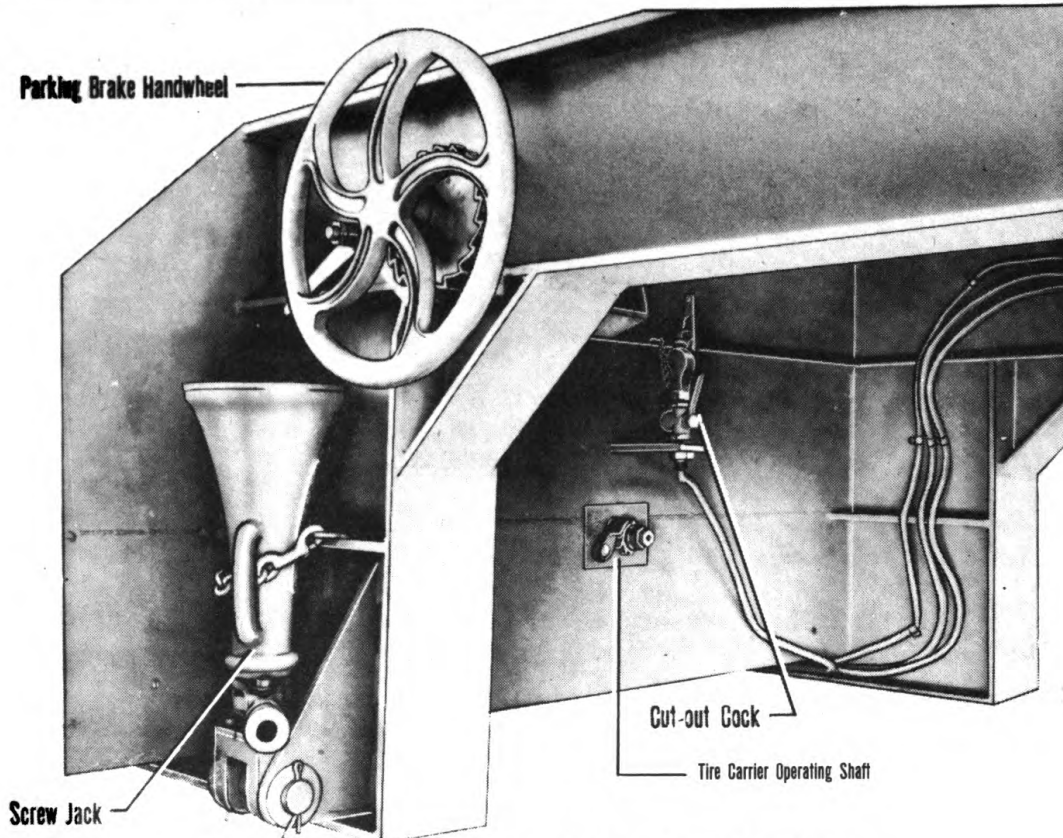

Figure 8—Below the Gooseneck of the Main Unit Frame
A hand parking brake, with its operating wheel (figure 8) at the right side of the trailer frame, actuates cross shafts and levers connected by rods to the rear axle brake slack adjusters.
Screw jacks (figure 8) are provided at each side of the goose neck to support the main frame without its dolly.
13. A cut-out cock (figure 8), located under the main unit gooseneck, is provided in the hose line connecting the dolly air brake equipment to the trailer air brake system so that the line may be closed when the dolly is not being used.
The parking brake handwheel is located on the right side of the trailer at the drop in the frame. Turning the wheel applies the brakes. The hand brake can be used as a parking brake, or as a supplement to the truck brakes when descending extremely steep grades with a heavy load. (See figure 8.)
The tire carrier (figure 49) is located behind the front cross member of the lower deck, while the carrier operating shaft protrudes through that cross member (figure 8). By removing the stud nuts on the spare tire, and releasing the catch on the operating shaft ratchet, the tire will fall to the ground. The tire is raised to the carrier by means of cables operated by turning the operating shaft with the socket tire wrench on the shaft nut.
9. Remove the dolly air hose connection from its hanger at the rear of the dolly frame and connect it to the air hose coupling below the gooseneck on the main unit frame (figure 8); open the cut-out cock.